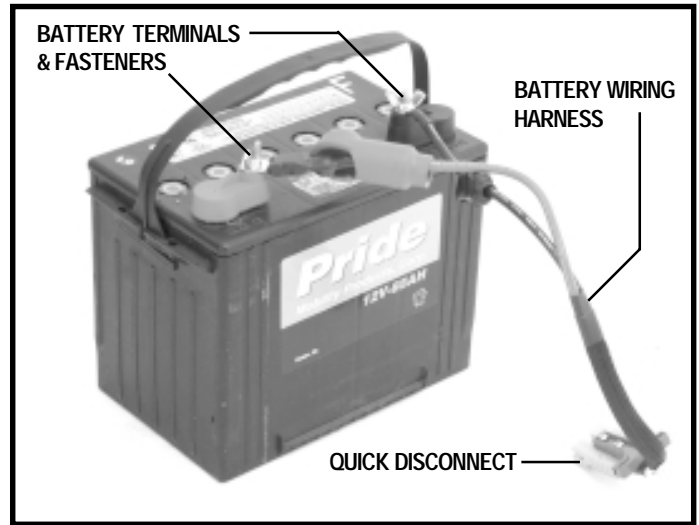

Figure 28. Battery and Harness
5. Locate the battery quick disconnects on the frame and disconnect both of them. See figure 28.